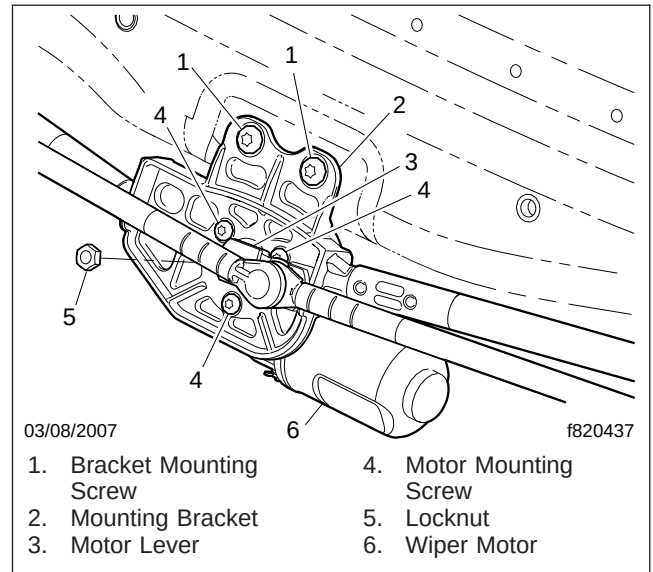

Fig. 2, Wiper Motor Installation
5. Remove the nut that attaches the motor lever to the motor shaft; see Fig. 2.
8. With the linkage in park position, as shown in Fig. 2, install the nut that attaches the motor lever to the motor shaft. Tighten the nut 15 to 18 lbf-ft (20 to 24 N·m).